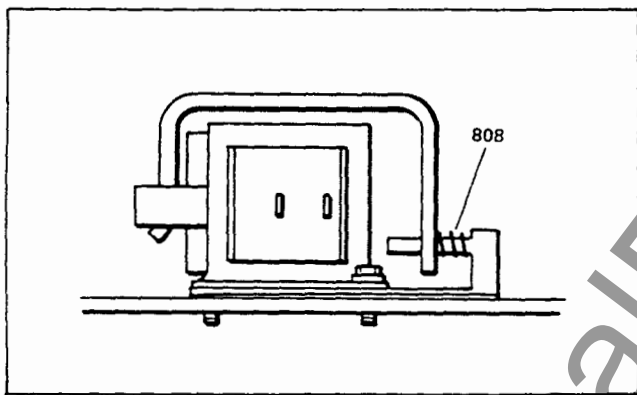

Figure 11. Shunt Trip
Each electrically operated breaker is equipped with a shunt trip attachment for tripping from a remote location. (See Figure 11.) Since the shunt trip coil is designed for a momentary duty cycle, an "a" auxiliary contact switch is used to interrupt its circuit immediately after the breaker is tripped. Energization of the coil causes the armature to pick up and rotate the trip latch to trip the breaker. A compression spring (808) returns the armature to its normal position.